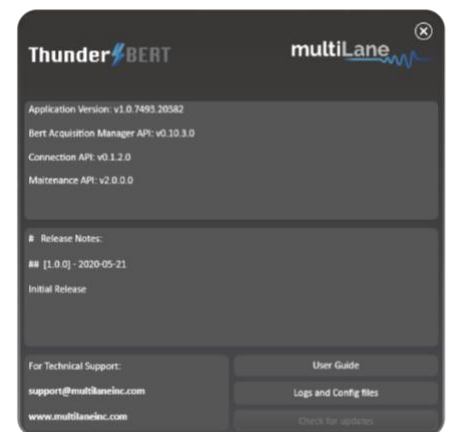

Figure 7: About window
- **About Window** (Figure 7) will give the user access to the necessary information about the product including: